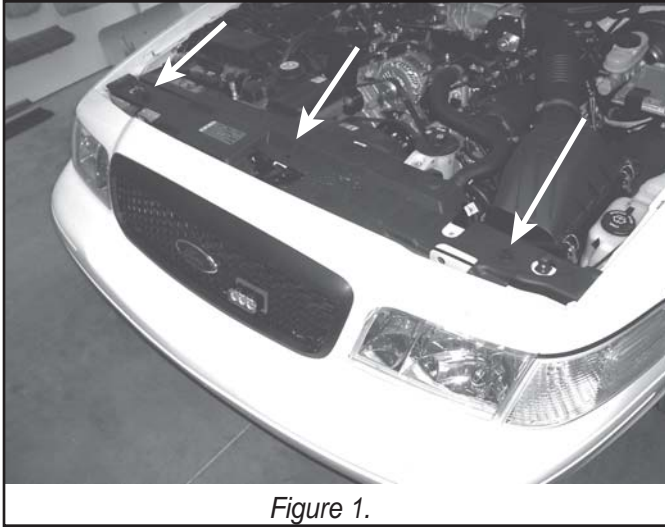

Figure 1.
1. Open hood, locate plastic shield that is between radiator cross bar and grille. Locate 3 quarter turn fasteners. See figure 1 for location of fasteners.